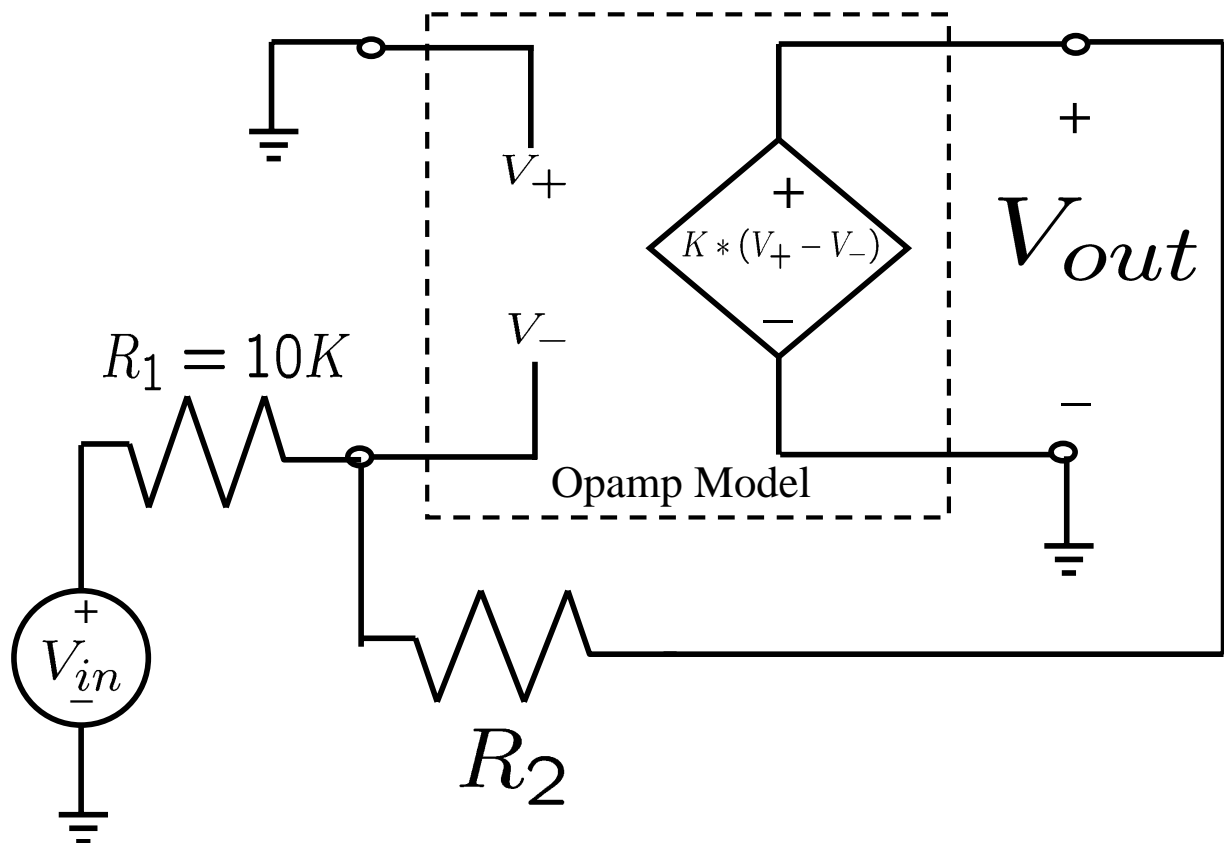

Figure 2: Amplifier using VCVS model of an op-amp.
**Question 3.** In figure 2, the voltage-controlled voltage-source (VCVS) model of the op-amp has been used to create an amplifier with input  $V_{\text{in}}$  and output  $V_{\text{out}}$ . We have learned that the amplifier gain for this kind of circuit is approximately